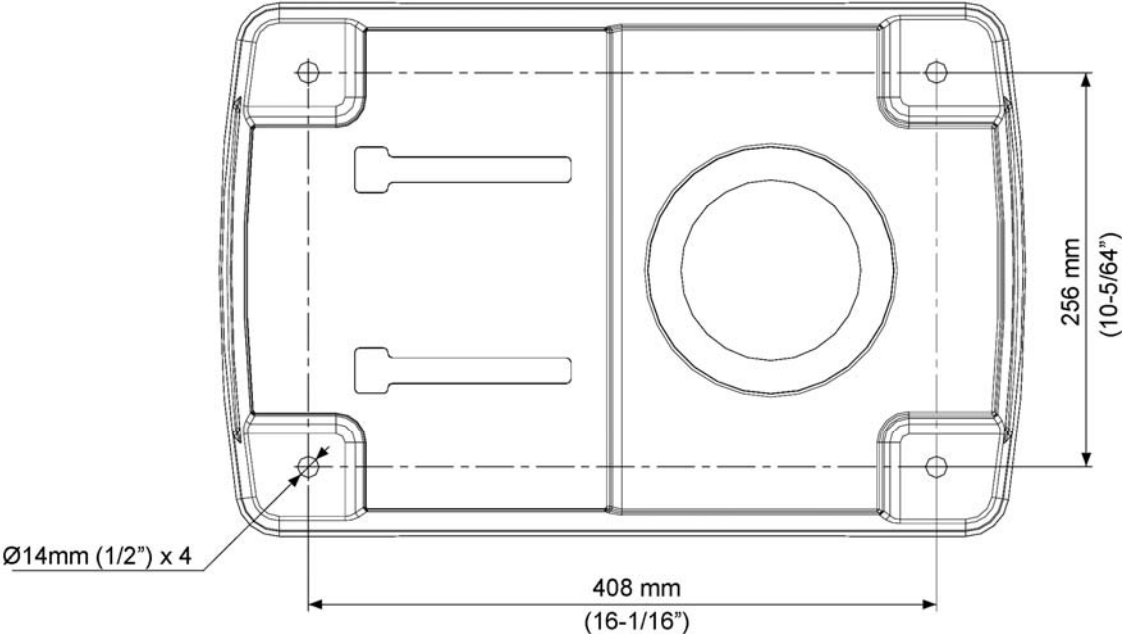

Figure 1
1. Place base upon a level floor. It may be secured to floor with lag screws (not provided) through four holes in the base. Refer to Figure 1 for hole spacing.